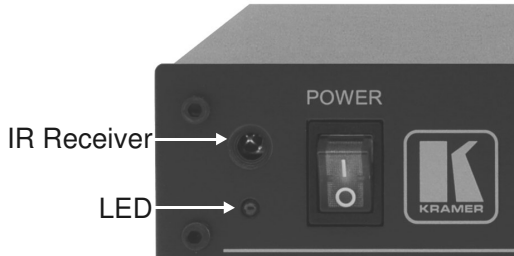
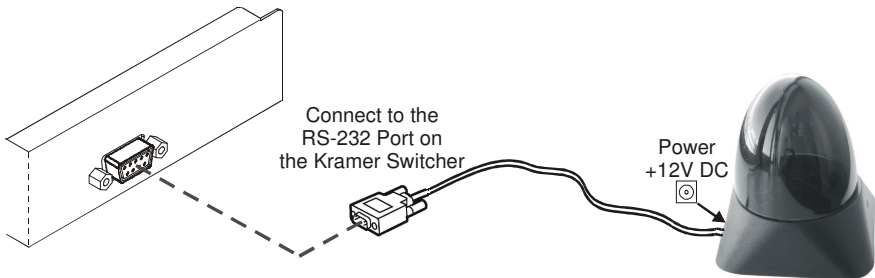

Figure 2: Built-in Remote Receiver
Figure 3: Connecting the External Remote Receiver
- Transmits to a compatible remote receiver, either built-in (see Figure 2) or external (see Figure 3). The transmitter includes non-volatile memory that retains the last setting, even after the power supply is interrupted
Most Kramer switchers¹ include a built-in front panel remote receiver that is located to the left of the power switch, as Figure 2 illustrates:
When your RS-232 controlled Kramer switcher has no built-in front panel remote receiver, you can use the external remote receiver¹ (see Figure 3). The external remote receiver includes an attached RS-232 cable with a DB9 connector, and a 12V DC power socket.
To connect the external remote receiver, as the example in Figure 3 illustrates, do the following: